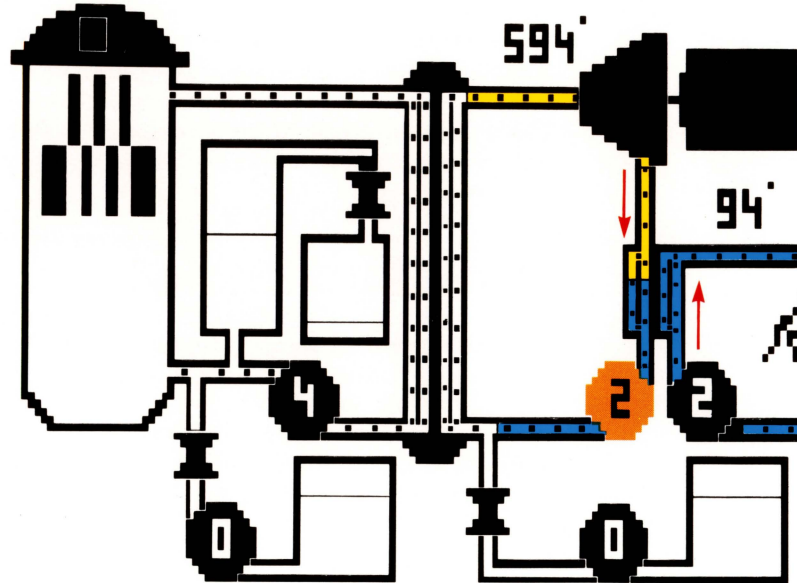

Figure 8. The Condenser
**Condenser.** The condenser (Figure 8) is a heat exchanger, like the steam generator. It consists of a number of small pipes inside a large pipe. Hot steam from the turbine flows downward in the small pipes and passes heat to cooler water, in the Tertiary Loop, which is circulating upward through the large pipe. After giving up heat, the steam condenses into water and is piped to the main feedwater pumps.